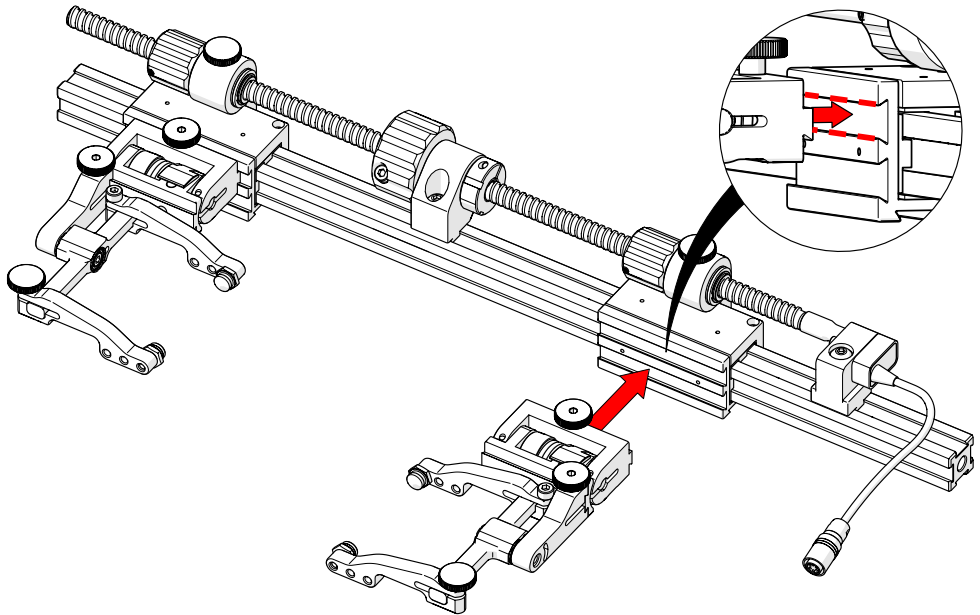

Fig. 158 - Mount probe holders
1. Attach the probe holders (see *Slip Joint Probe Holder* on page 19) to the top groove on the mounting bracket of the slider (Fig. 158).